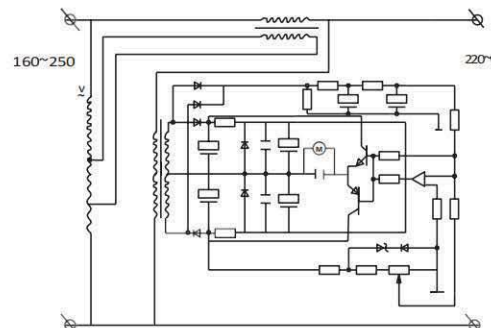

Figure 3
- The electrical schematic for the SVC-5kVA and above is shown in Figure 3;